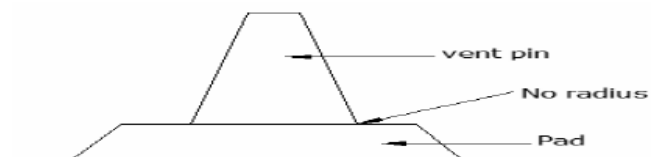

Fig. 10
- Avoid top vent breaking (Fig.10)